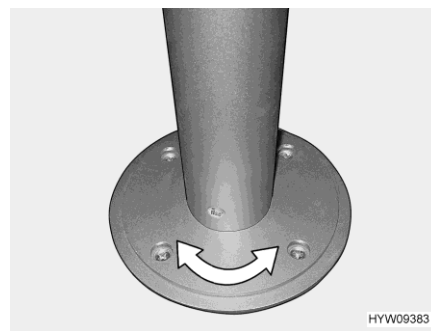

Fig. 107 Pillar table leg (rotatable) (dependent on model)
- Rotate table top to the desired position. In order to do this, you need a little effort, because the table top rotates against the friction resistance on the pillar table leg (Fig. 107).